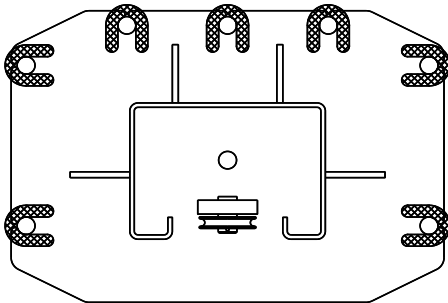

Fig. 2 – Column Shimming
- 8) Shim both columns to plumb using the shims provided as shown in **Fig. 2**. DO NOT shim more than 1/2" at any given point. Use a level no less than 24" in length to plumb columns.
- 13) Check idler column shimming. Use additional shims (*see Fig. 2*) to remove any gaps that may have been created while installing overhead beam. Tighten anchor bolts and re-check column for plumb. Torque to 150 foot-pounds.